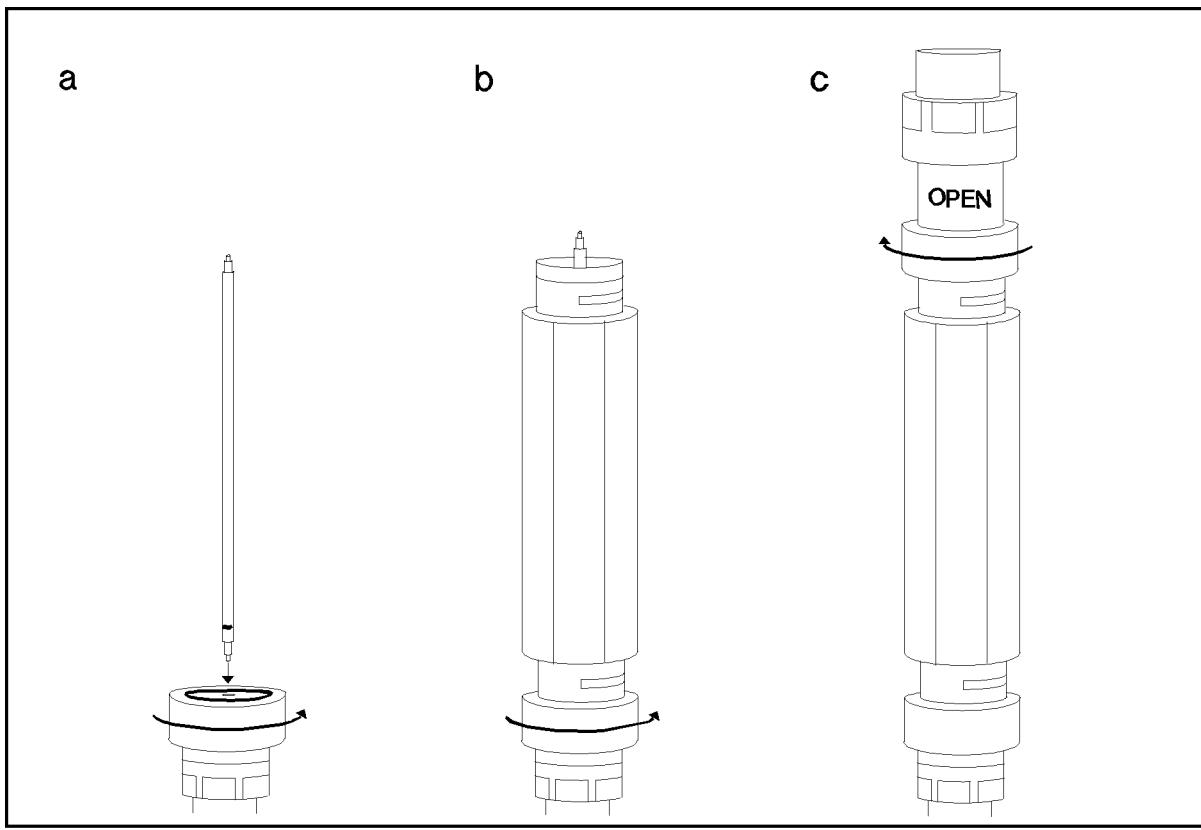

Figure 2-5. 10 cm Airline with Open Measurement Test Setup
60. Connect the 10 cm airline and open termination to the test head APC-7[®] connector, using the following procedure (see Figure 2-5):